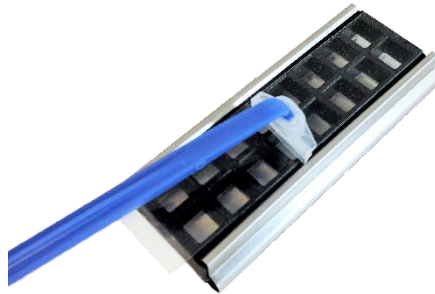

Figure 8
8. As shown in Figure 8, use the seal strip applicator tool to smooth the seal strip surface, to remove bubbles, and to ensure a leak free seal.